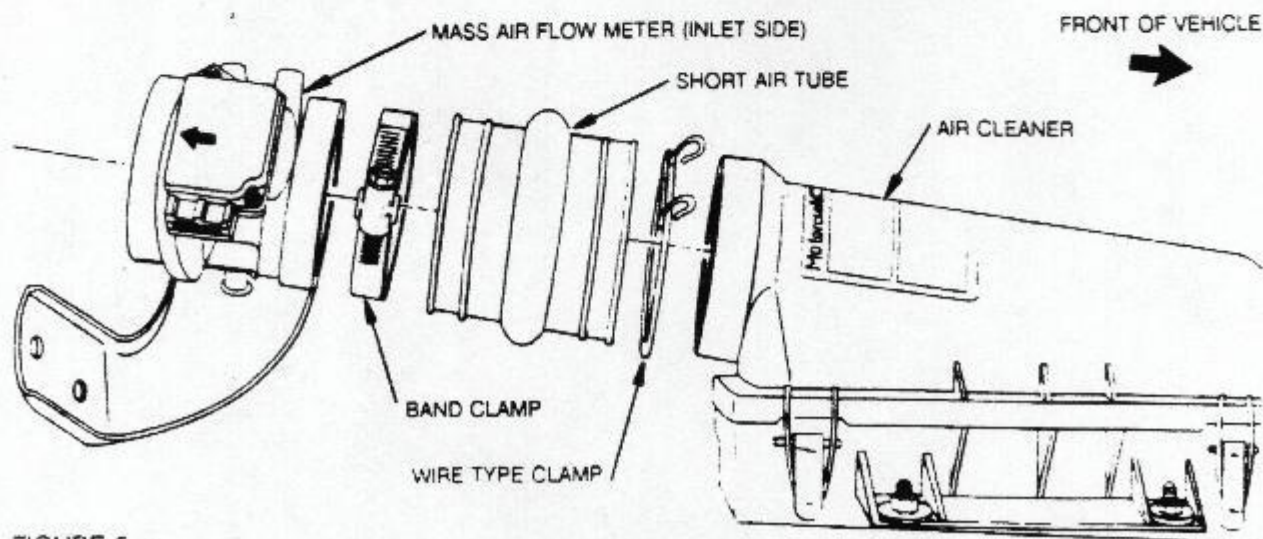

FIGURE 5
STEP 7 Install short air tube on inlet side of MAF, if required, using the band clamp provided (arrow on MAF indicates direction of flow). See figure 5.
STEP 8 Install the other end of the short air tube onto the air cleaner using the wire type clamp provided. See figure 5.